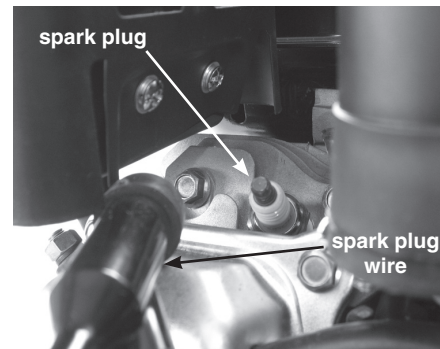

FIGURE 11
1. Detach spark plug wire and move away from spark plug. **SEE FIGURE 11.**
4. After analysis, seat spark plug and tighten with spark plug wrench to compress the sealing washer. **SEE FIGURE 11.**